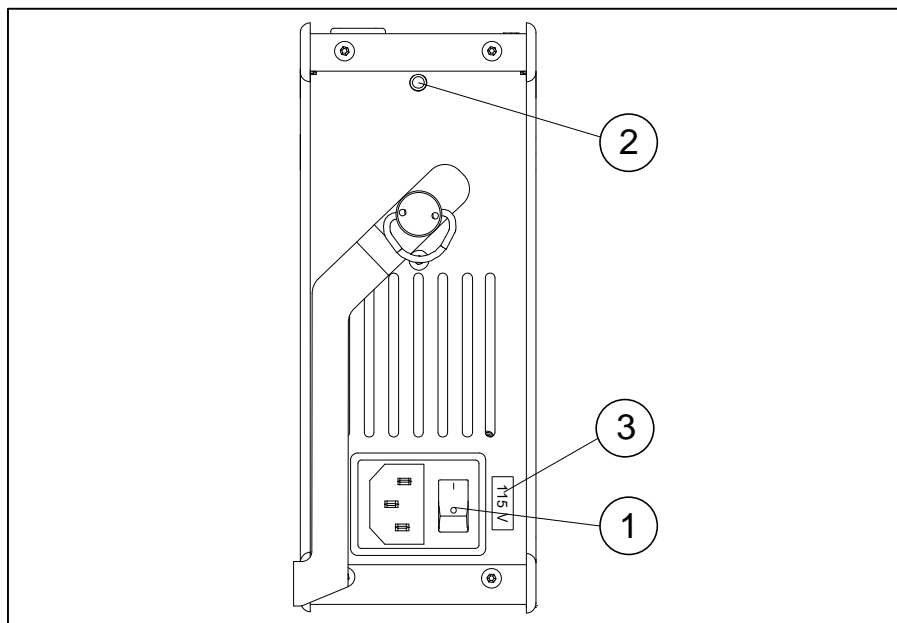

Fig. 5
①	Power control switch with connection for cable and on/off switch.
②	Connection for RS232 cable.
③	Voltage label. It is very important that the voltage shown on the label is identical to the mains voltage.
Switch the calibrator on using the power control switch (Fig. 5, pos. 1).